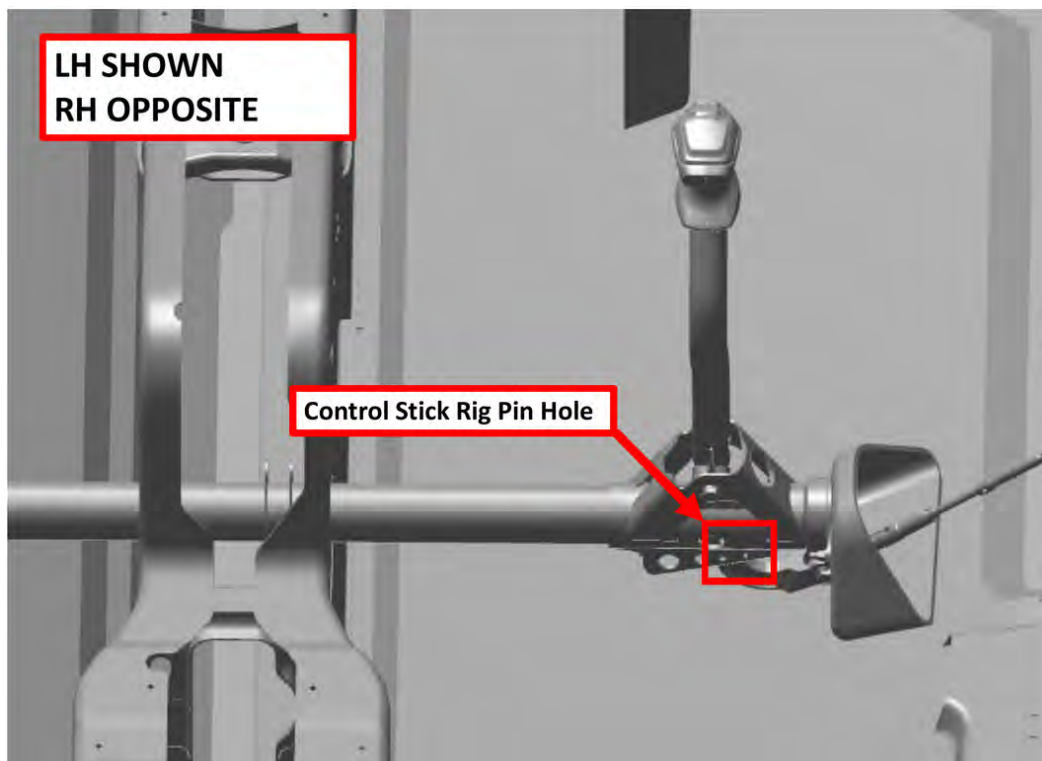

FIGURE 10-15
8. Install .1875 in diameter rig pin through the control stick rig pin hole. See Figure 10-15.